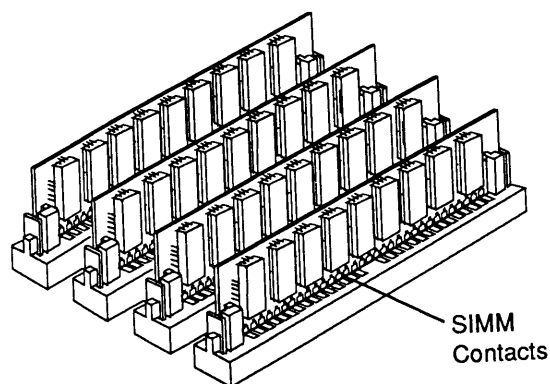

Figure 6-5 Installing SIMMs
1. With the contacts on the SIMM pointing down (**Figure 6-5**), set the SIMM into the connector at an angle. Push back on the top corners of the SIMM. You will hear a click when the SIMM snaps into place.